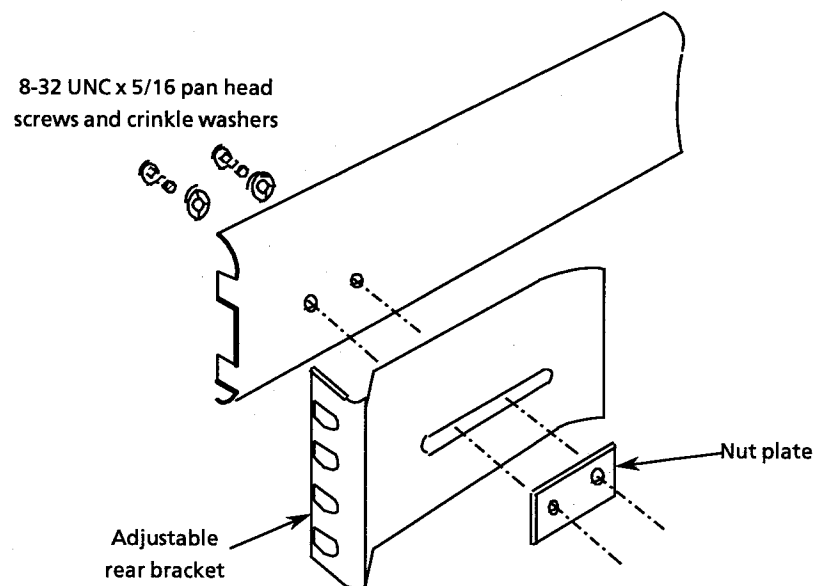

Fig. 2.8 *Fitting a rear bracket*
6.4.3 Fit the following items to the telescopic slide outer members, as shown in Figs. 2.8 and 2.9: